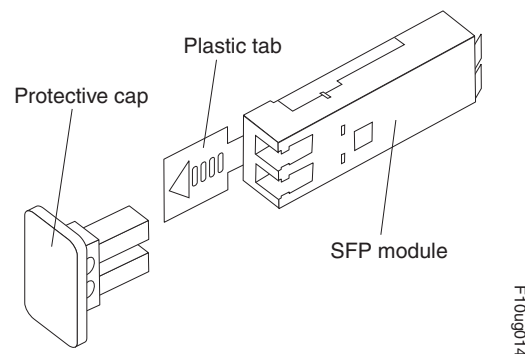

Figure 20. Small Form-Factor Pluggable (SFP or SFP+) module
2. Remove the protective cap from the SFP or SFP+ module, as shown in Figure 20. Save the protective cap for future use.